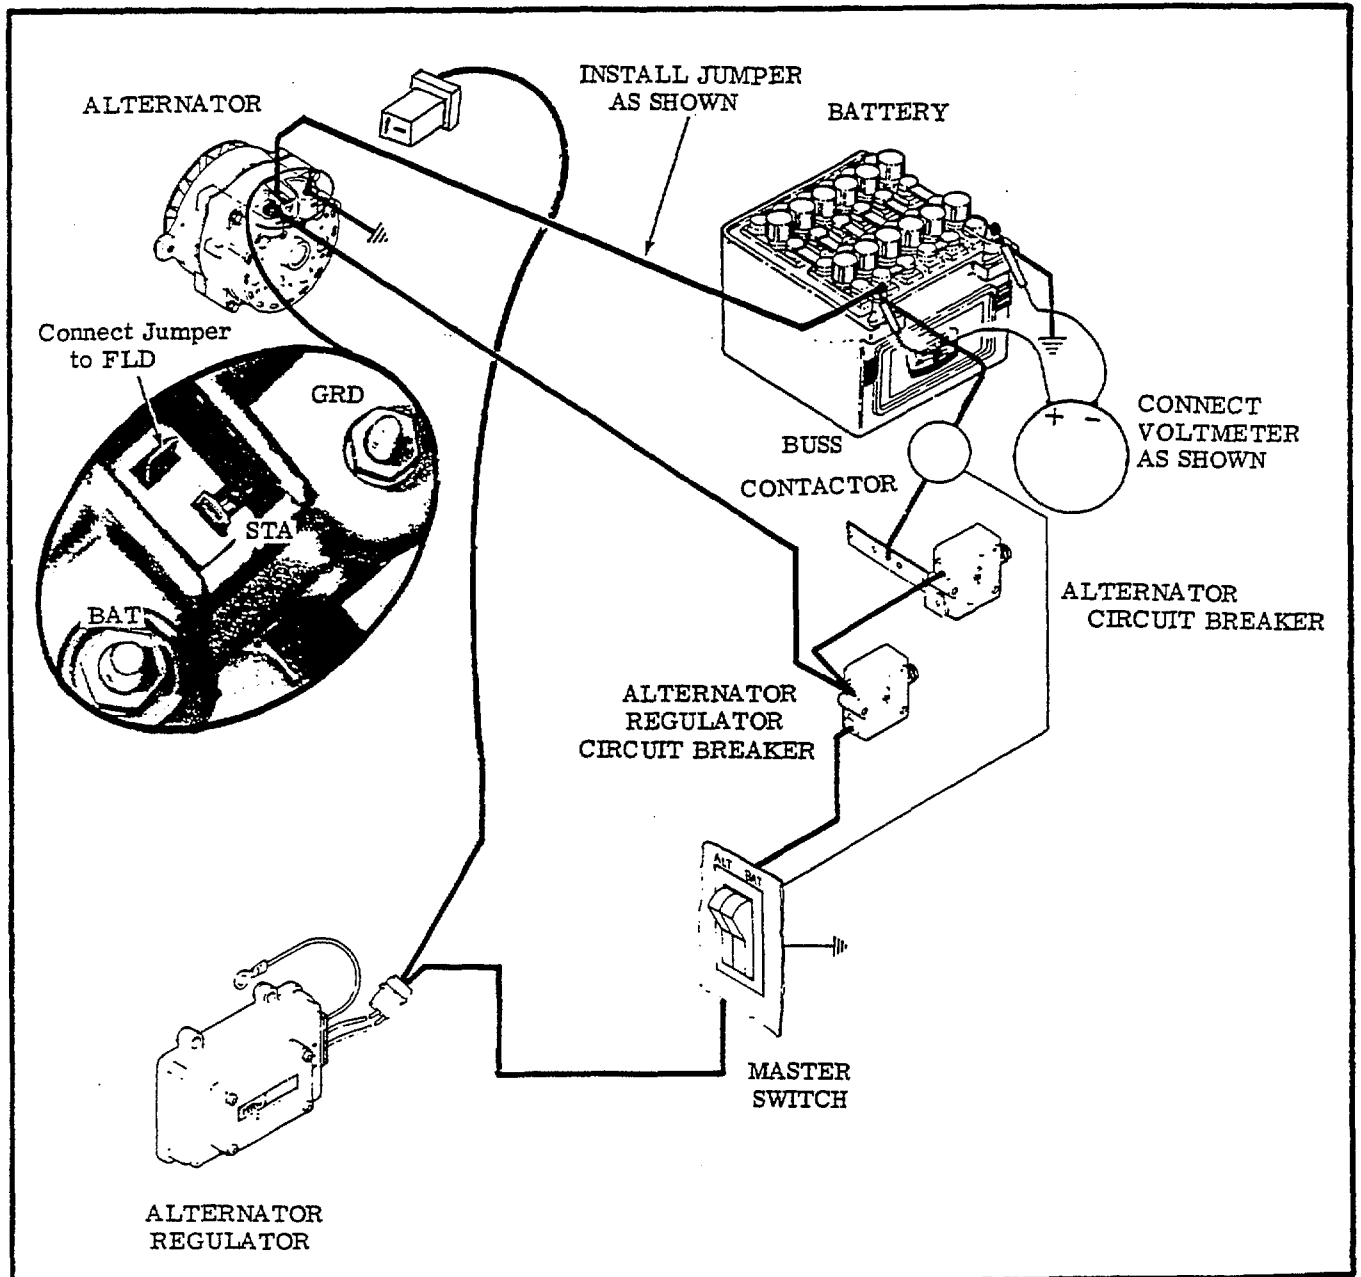

Figure 7-4. Isolating Wiring Harness Circuit
- e. Remove the jumper end from the voltage regulator plug and connect it to the "FLD" pin of the alternator (plug removed). This eliminates the wiring harness to prove the alternator. (Refer to figure 7-4).